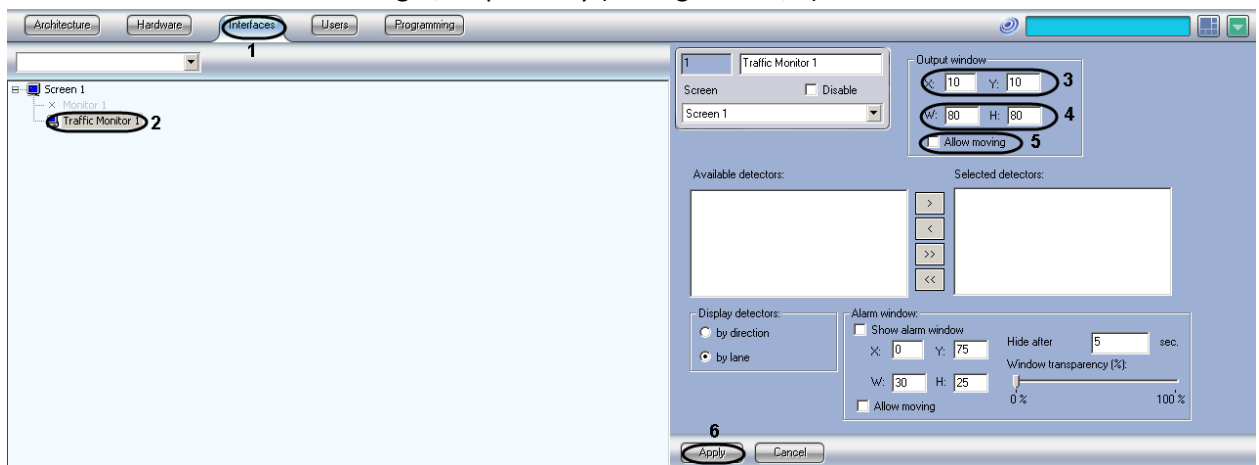

Fig. 7.8—1 Setting up the Traffic Monitor window position
1. Open the Interfaces tab in the System Settings window (see Fig. 7.8—1, 1).
2. Select the Traffic Monitor object in the object tree (see Fig. 7.8—1, 2).
3. By default, the Traffic Monitor window is located in the middle of the screen, with the following upper left corner coordinates: X = 10, Y = 10. To change its position, enter the coordinates in the X and Y fields, as a percentage of the screen width and height, respectively (see Fig. 7.8—1, 3).
4. By default, the Traffic Monitor window takes 64% screen space (80% of the width and height of the screen). To change the window size, enter the values in the W and H fields, as a percentage of the screen width and height, respectively (see Fig. 7.8—1, 4).
5. By default, the Traffic Monitor window cannot be freely moved around the screen. To allow free movement of the window, check the «Allow moving» checkbox (see Fig. 7.8—1, 5).
6. Click «Apply» (see Fig. 7.8—1, 6).